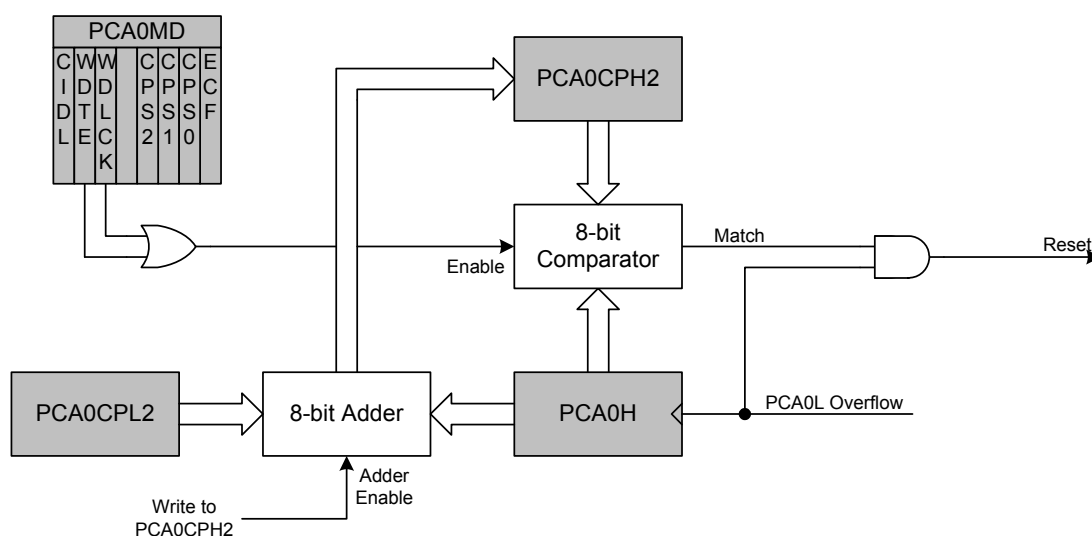

Figure 32.11. PCA Module 2 with Watchdog Timer Enabled
While the WDT is enabled, writes to the CR bit will not change the PCA counter state; the counter will run until the WDT is disabled. The PCA counter run control bit (CR) will read zero if the WDT is enabled but user software has not enabled the PCA counter. If a match occurs between PCA0CPH2 and PCA0H while the WDT is enabled, a reset will be generated. To prevent a WDT reset, the WDT may be updated with a write of any value to PCA0CPH2. Upon a PCA0CPH2 write, PCA0H plus the offset held in PCA0CPL2 is loaded into PCA0CPH2 (See Figure 32.11).